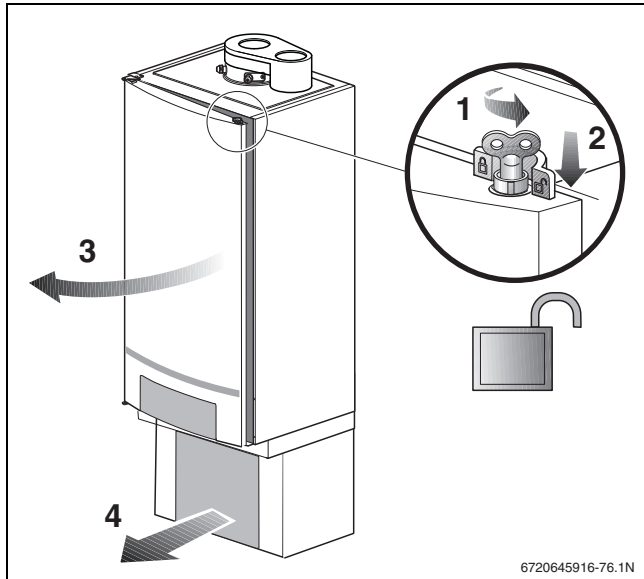

Fig. 78 Opening the boiler door
- Turn the vent key through a quarter rotation to undo the boiler door lock (→ fig. 78, step 1).
- Push the fastener down (→ fig. 78, step 2) and open the boiler door.